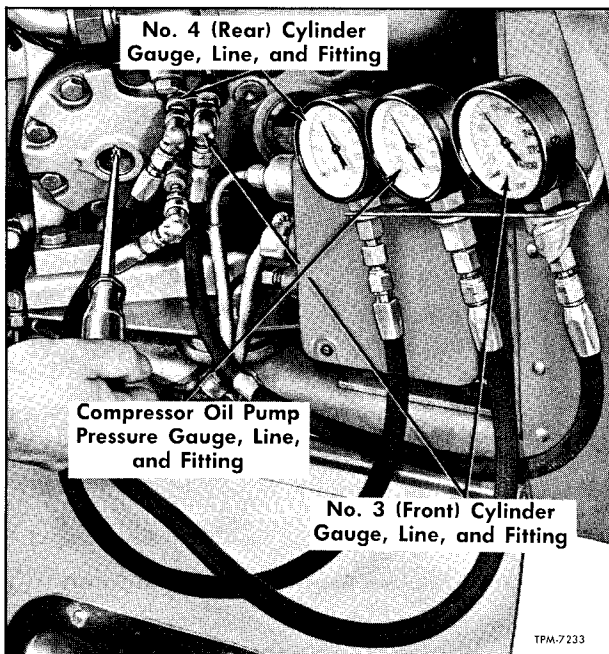

Figure 132—Checking Compressor Unloading Pressures
- a. Remove hex plug from over unloader adjustment screw as shown in figure 132.
5. If difficulty is encountered in definitely observing unloading on suction gauge, individual gauges can be used to determine performance of each unloader without question. Figure 132 shows individual gauges installed.